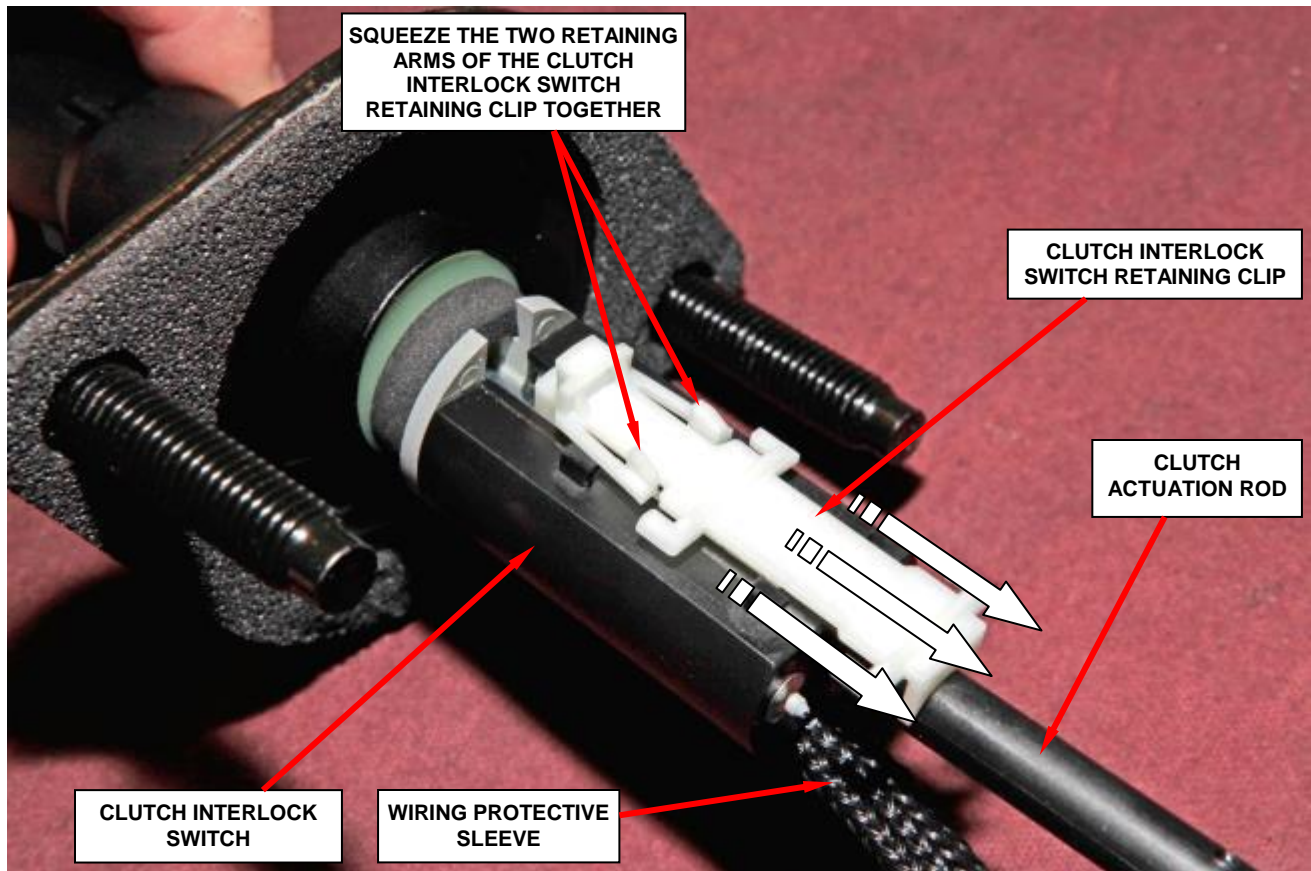

Figure 12 – Clutch Interlock Switch Retaining Clip
- a. Squeeze the two retaining arms of the clutch interlock switch retaining clip together (Figure 12).
11. Install the original white plastic clutch interlock switch retaining clip (Figure 12).